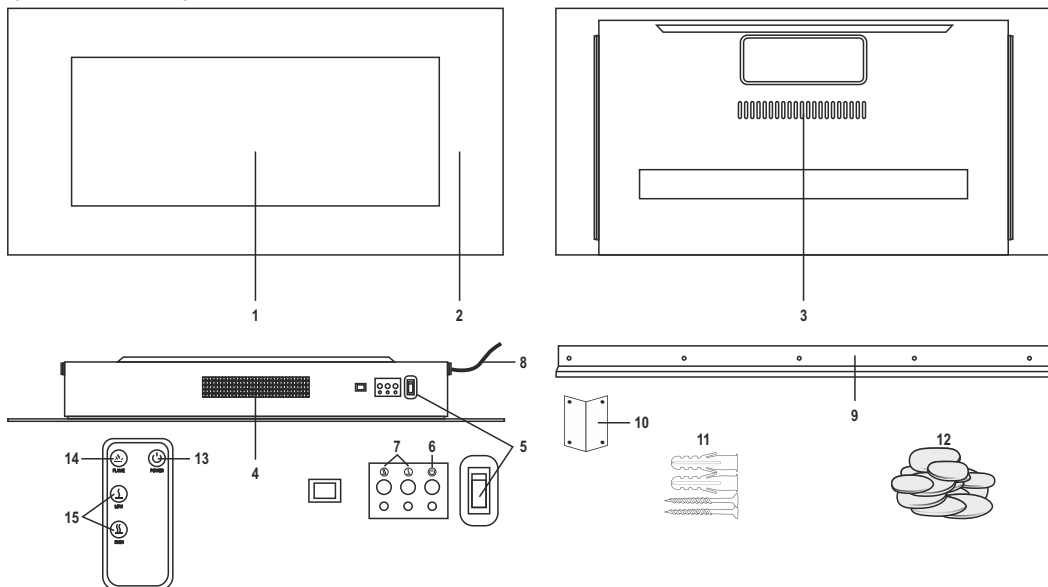

figure 2 • 2. ábra • 2. obraz • figura 2. • 2. skica • 2. skica • 2. obrázek • slika 2.
1. Make sure that the appliance has not been damaged in transit! • 2. Mount the appliance only on vertical surface! • 3. When locating and mounting the unit, please take into account the wall material and its bearing capacity! • 4. Never locate the unit directly in corners and observe the minimum locating distances indicated in Figure 2. Always observe the health and safety regulations valid in the country of use! • 5. Before powering on the appliance, make sure it is fixed stable on the wall! • 6. The appliance should be used as intended for heating air, not for general heating purposes. • 7. The stream of hot air should not be directed straight to curtains or other flammable materials! • 8. The grill covering the hot air outlet can be hot! • 9. Do not locate near flammable materials! (min. 100 cm) • 10. Do not use in locations where flammable vapors or explosive dust may be released. Do not use near flammable materials or in potentially explosive atmospheres! • 11. Operate under constant supervision! • 12. Do not operate unattended in the presence of children! • 13. Only for indoor use, in a dry place. Protect from humidity (e.g. bathrooms, swimming pools)! • 14. It is PROHIBITED to use the unit near bathtubs, basins, showers, swimming pools or saunas! • 15. It is prohibited to use the appliance in motor vehicles or in confined spaces (< 5 m2) such as elevators! • 16. When not planning to use the unit for an extended period of time, switch it off, then remove the power plug from the outlet. Store the appliance in a cool, dry place! • 17. Power off the unit every time before relocating it! • 18. Do not lift the appliance by the glass front panel! • 19. Do not locate the appliance directly below a wall outlet! • 20. If any irregular operation is detected (e.g., unusual noise or burnt odor from unit), immediately switch it off and remove the power plug! • 21. Make sure that no foreign objects or liquid can enter the unit through the openings. • 22. Fragile! Handle with care, the broken and cracked glass can cause injury! • 23. Protect from dust, humidity, sunlight and direct thermal radiation! • 24. Power off the unit by unplugging it from the electric outlet before cleaning! • 25. Do not touch the unit or the power cable with wet hands! • 26. Unwind the power cable completely! • 27. The appliance may only be connected to properly grounded 230 V ~/50 Hz electric wall outlets. Circuit has to be protected by a 16 A circuit-breaker. • 28. Do not use extension cords or power strips to connect the unit! • 29. Do not lead the power cable over the appliance or near the air in- and outlets! • 30. Do not lead the power cable under carpets, doormats, etc.! • 31. The appliance should be located so as to allow easy access and removal of the power plug! • 32. The unit is intended for household use. No industrial use is permitted!
2. Choose the wall surface for mounting the fireplace taking Figures 2 and 3 into consideration. Please take into account that the length of the power cable is 1,7 m.